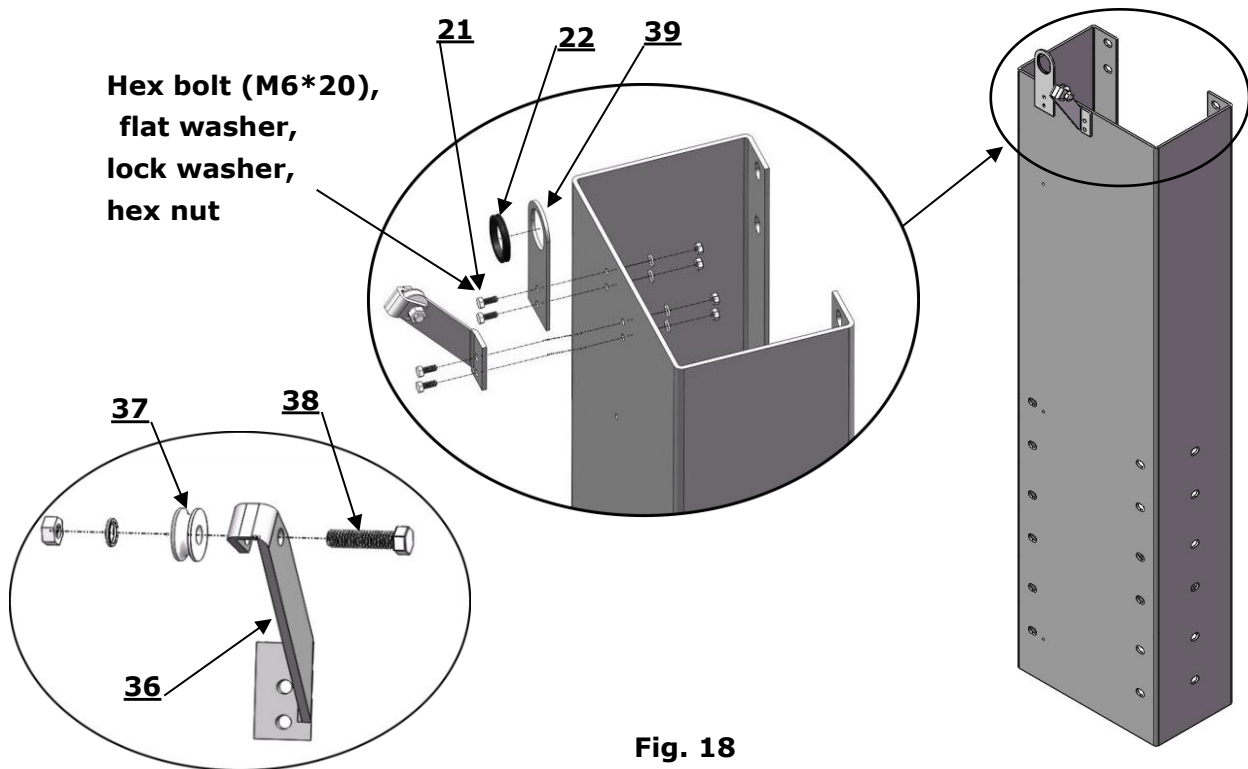

Fig. 18
D. Install parts of outer columns (See Fig. 18).